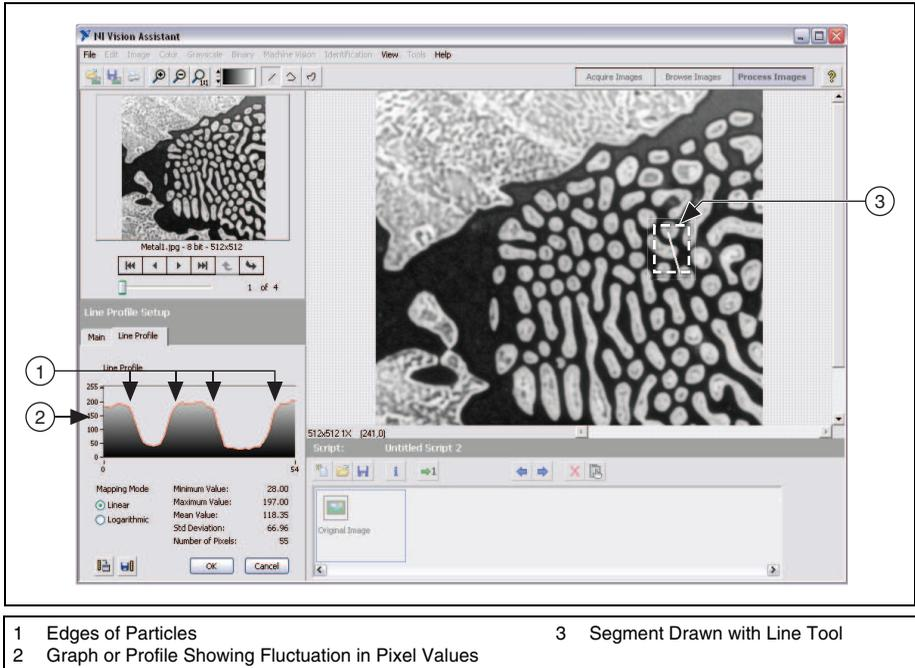

Figure 3-1. Using a Line Profile to Examine Edges
3. Draw a short segment across a particle, as shown in Figure 3-1.
In Figure 3-1, the areas labeled **1** represent the edges of the particles. Notice that the edges of the particles have a slope. The more shallow the slope, the greater variation you have in detecting the exact location of the edge. As you change the threshold level in images with shallow-sloped particle edges, you might inadvertently change the shape or size of the particle. In the *Filtering the Image* section of this chapter, you use the Convolution-Highlight Details filter under **Filters** in the **Grayscale** tab of the Processing Functions palette to define the edges of the particles and increase the slope.
The area labeled **2** in Figure 3-1 is a fluctuation in pixel values, which might be caused by brighter and darker pixels in the center of the particles or it might also be edges of a hole in the particle. Later, you will threshold the image to make all of the pixels in the particles the same pixel value and then perform a morphological operation on the image to fill any holes left in the particles.